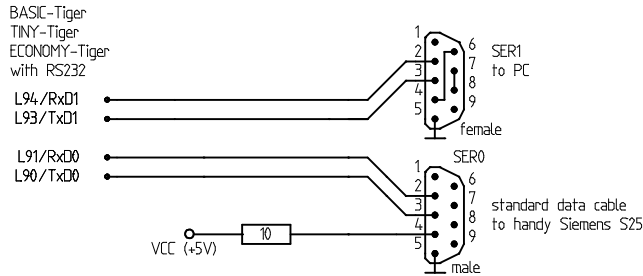

Fig. 3 Solution for Tiger with built in RS232-interface
- You wish to have a stand-alone solution. Your Tiger comes from a “better family” and has a built in RS232-interface. Its levels for communication are at ca. +10 V and -10 V respectively. In this case you can use the standard data cable of the S25 here as well. This cable has a 9 pole SUB-D-jack for direct coupling with the RS232-interface of the PC. We therefore sensibly use a 9-pole SUB-D-plug on the Tiger-side for SER0 with an additional power supply connection as mentioned above (Figure 3).